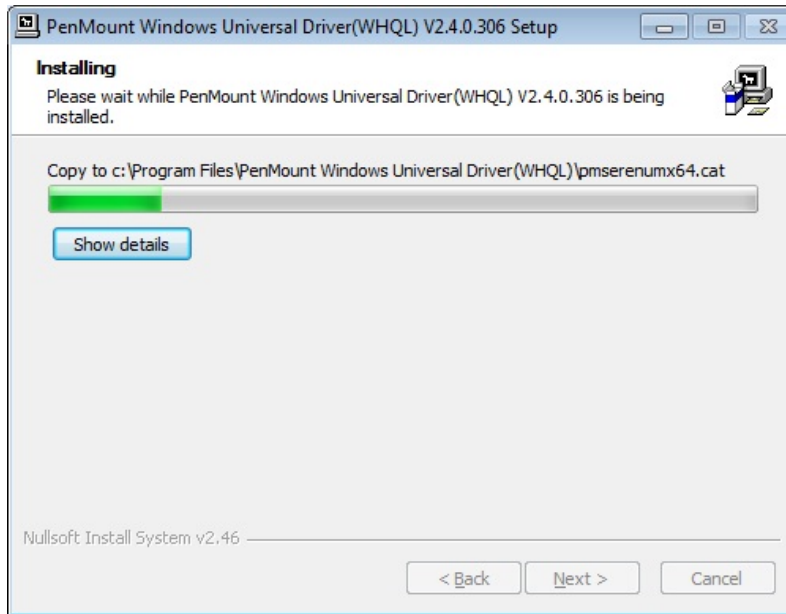

Figure 6-33: Setup Status
Step 10: The installation begins. See **Figure 6-33**.